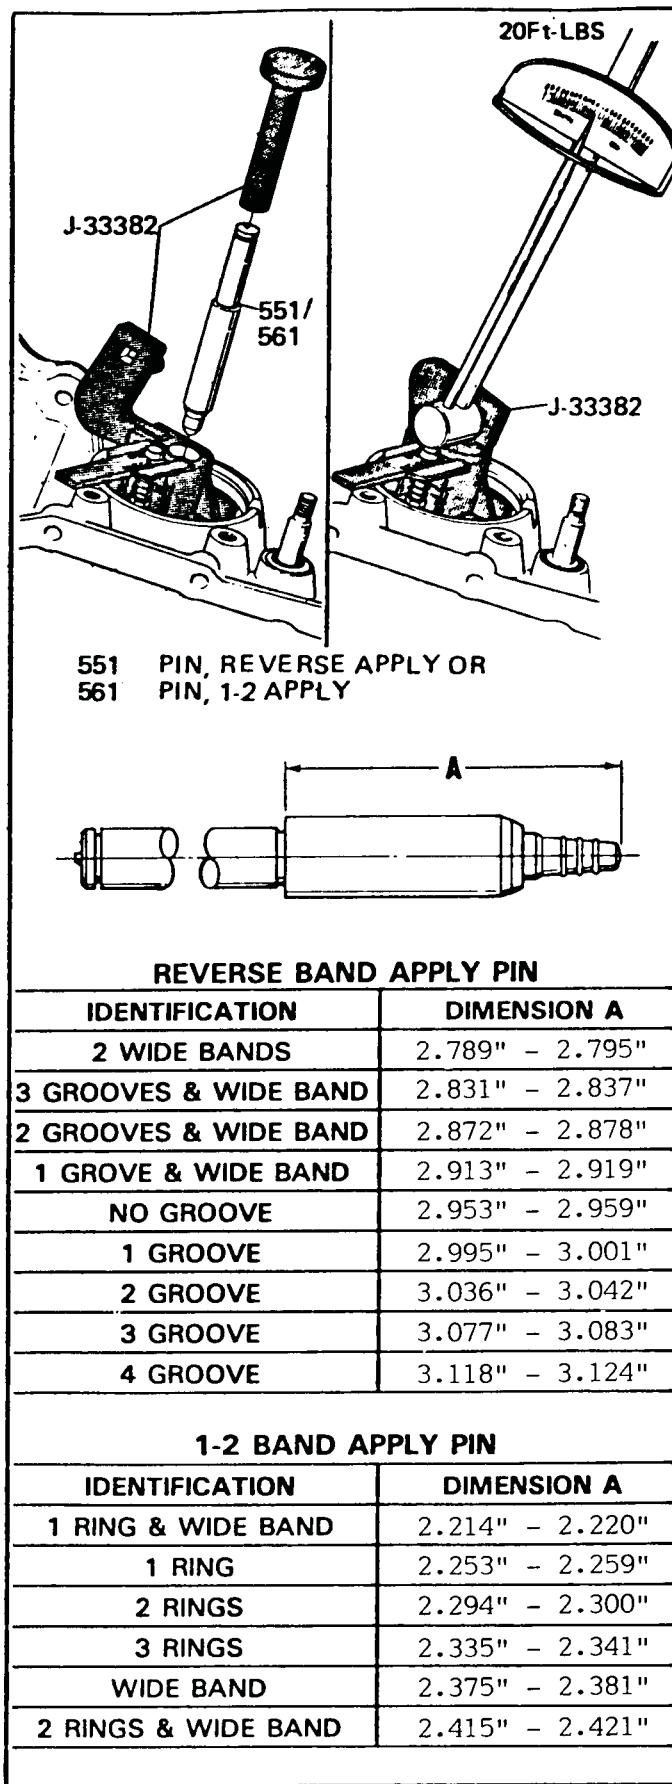

Figure 108
1. Install J-33382 tool as shown in Figure 108. Use the reverse servo pin for checking the reverse servo, and the 1-2 pin for checking the 1-2 servo. They are different lengths.
2. Apply 20 ft. lbs. torque to the tool as shown in Figure 108.